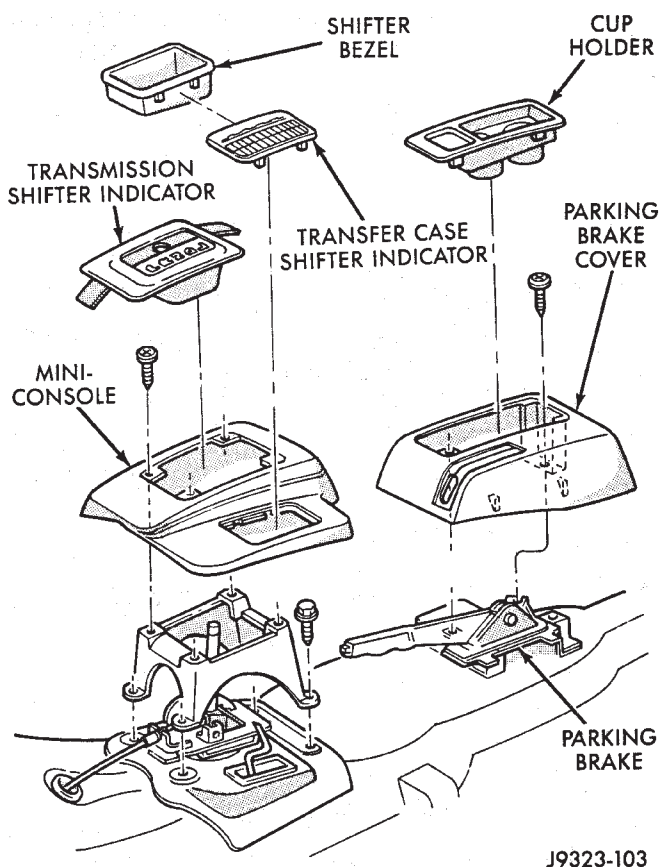

Fig. 30 Mini-Console Components
- (1) Pull up and remove cup holder from center of parking brake cover (Fig. 30).
- (3) Disconnect lamp sockets from bezels (Fig. 30).
- (5) Remove mini-console from transmission tunnel (Fig. 30).